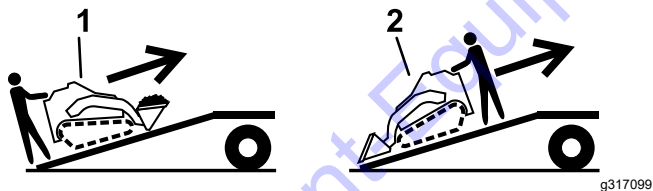

Figure 19
5. Load the machine onto the trailer with the heavy end up the ramp, carrying loads low (Figure 19).